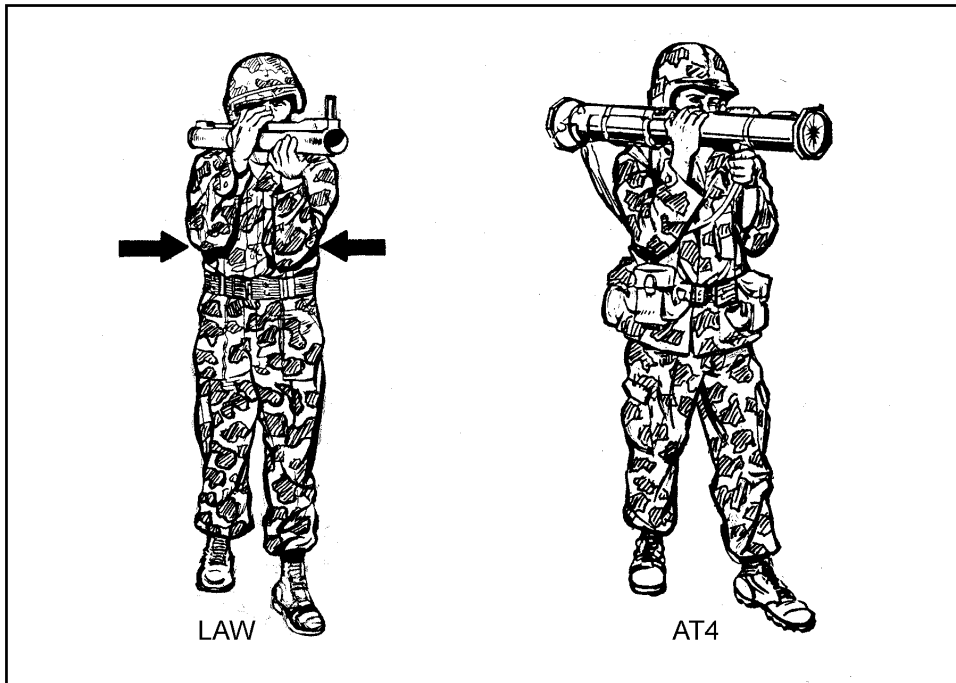

Figure 5-1. Basic standing position.
a. **Basic Standing Position.** Raise the launcher slightly higher than shoulder level. Execute a left face, rotate your shoulder under the launcher, and spread your feet a comfortable distance apart. Move your left foot 15 to 24 inches forward, keeping your hips level and your weight balanced on both feet. To obtain a firm, stable position, tuck both elbows tightly into your body. To track a moving target, turn your body at the waist—not with your legs. This enables you to track the target smoothly. Unless you are behind a protective barrier such as a wall, the standing position exposes you more than any other position to enemy observation and possible suppression. Differences between weapons with respect to the standing position are as follows (Figure 5-1, page 5-2):